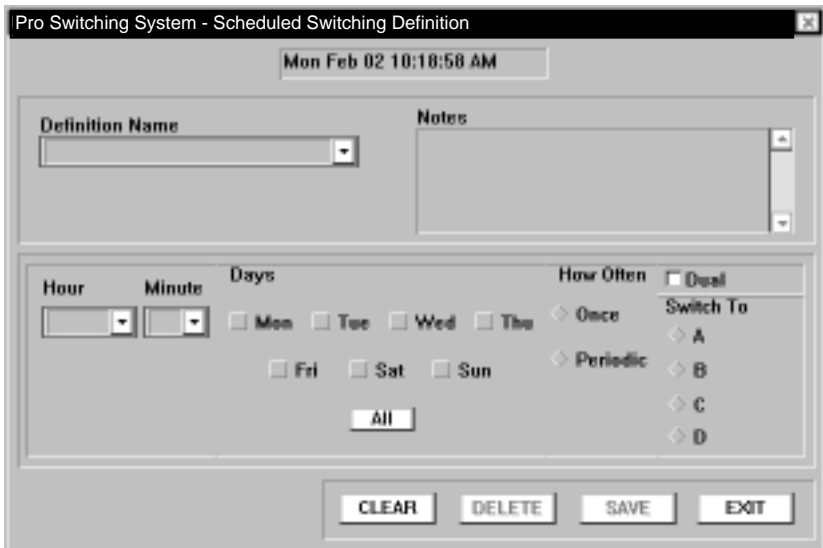

Figure 6-14. Switch Schedules Screen.
1. From the main menu, select Pro Switching System, then Definitions, then Switch Schedules. The Scheduled Switching Definition screen appears (see Figure 6-14).